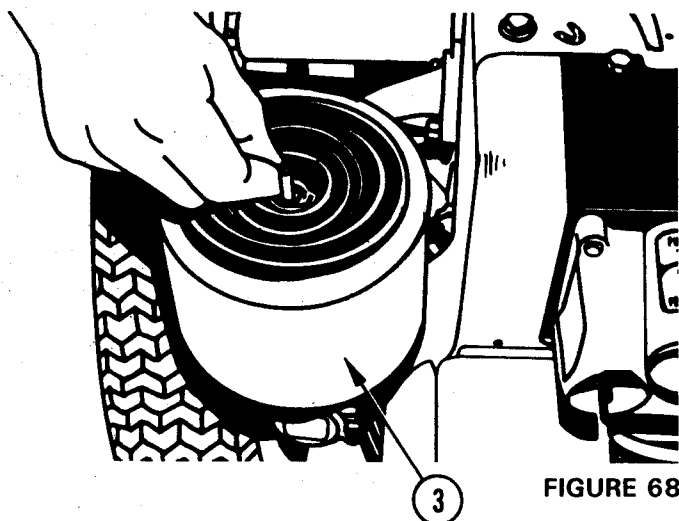

FIGURE 68
8. Install Air Cleaner Element (3) on top of the Air Cleaner Base as shown in Figure 68. Secure with Wingnut from the Carburetor Cover Assembly.